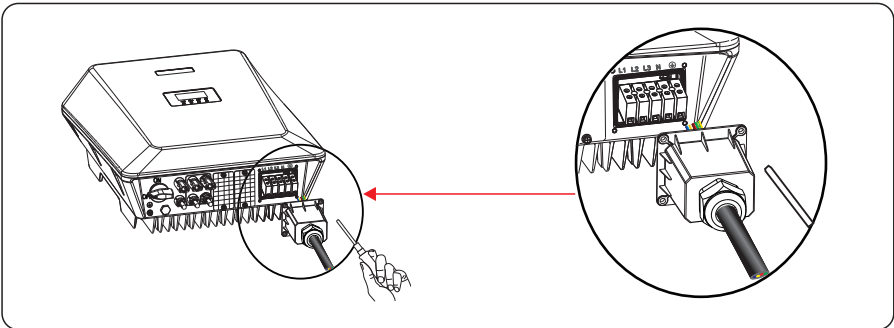

Figure 5.8 Tightening AC wiring cover
**Step 5** Aligning with the hole position on the AC terminal cover, use a torque wrench to tighten the locking cap to a torque of 1.2 N·m, as shown in Figure 5.8.
**Step 6** Use a torque wrench to tighten the locking cap on the AC cable to a torque of 5 N·m, as shown in Figure 5.8.